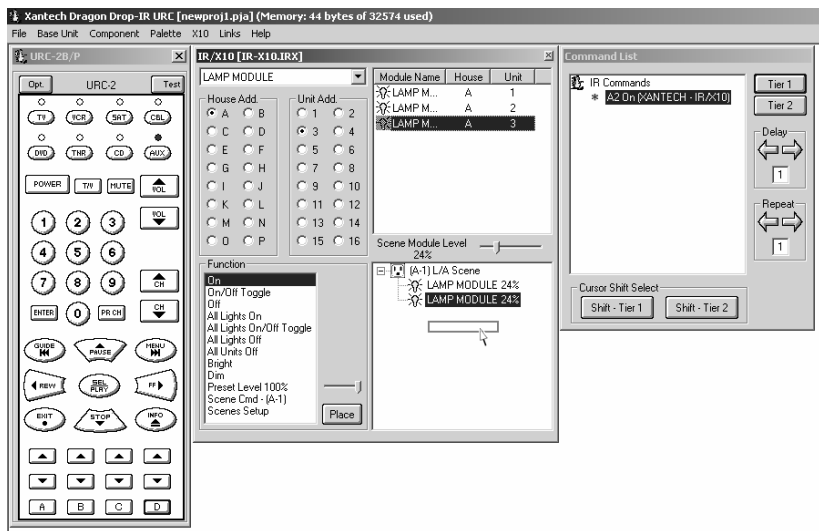

Figure 5 – Programming a Scene
3. Click and Drag a Module from the Module Name List Box above and 'drop it' just below the scene line you just added. Drag and Drop as many of the X10 modules you wish to control. Refer to **Figure 5**.